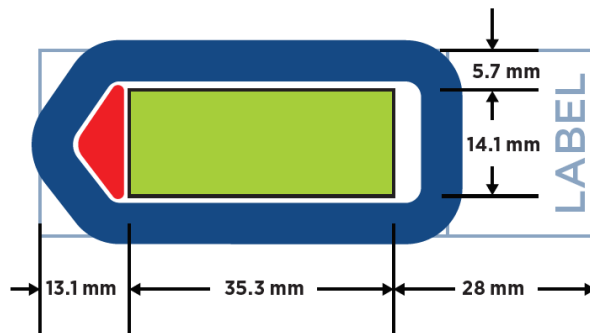

Figure 13: Slide dimensions
- Tissue sections must be placed in the **Scan Area** (shown in green) (see Figure 13) in the center of the slide and be **no larger than 35.3 mm long by 14.1 mm wide**. They should not overlap the slide gasket (shown in blue) or the Tip Calibration area (shown in red). If mounting multiple sections per slide, ensure that tissues are at least 2–3 mm apart and still fit within the Scan Area.